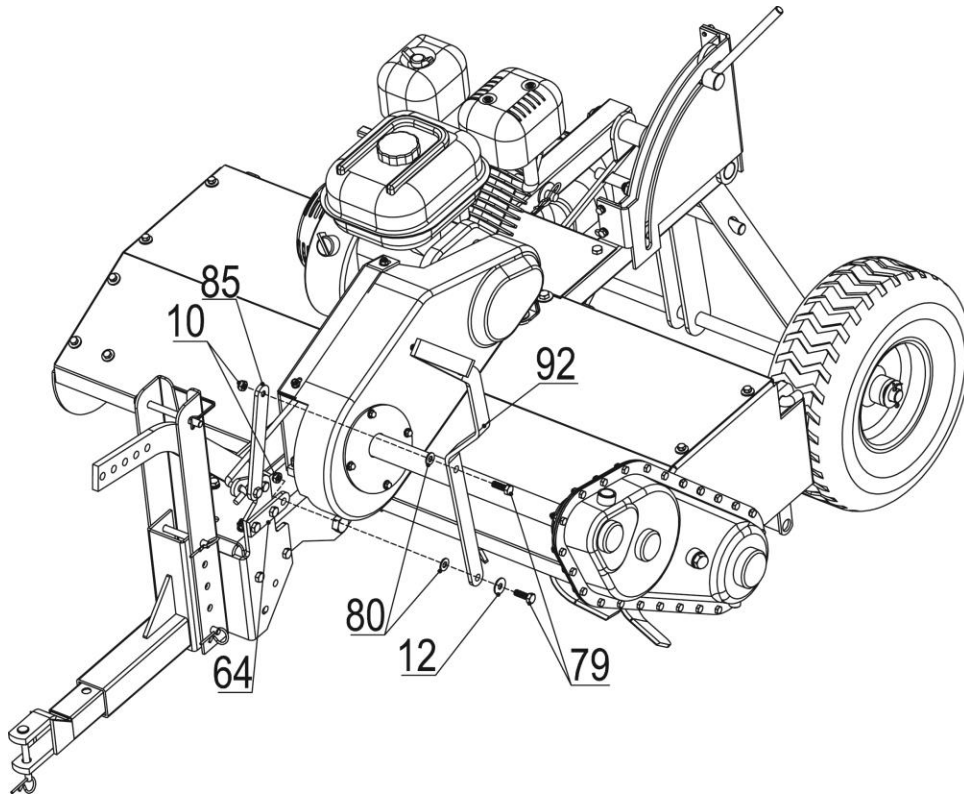

Figure 3
1. Connect the Lift Arm (#92), the Connecting Plate (#64), and the Connecting Rod (#85) using two Nylon Washers (#80), two Big Flat Washers (#12), two Hex Bolts (#79), and two Nylon Lock Nuts (#10). See Figure 3.